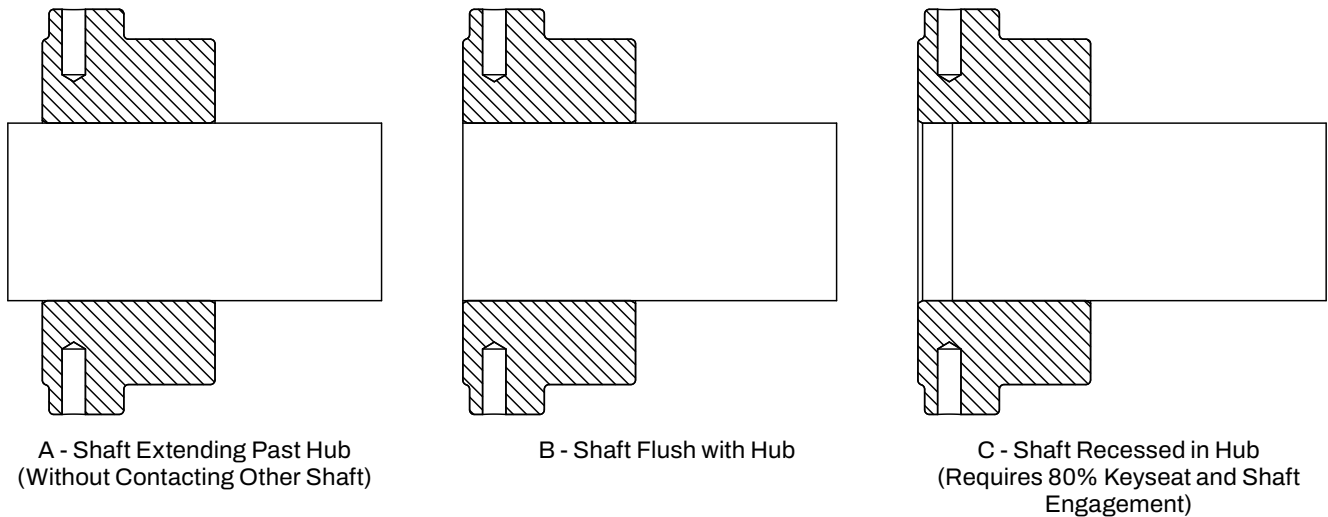

Figure 1 - Hub Mounting Options
2. If needed, hubs can be mounted with the shaft extending past the hub, flush, or recessed within the hub as seen in Figure 1.
2. Hubs must be mounted with 100% keyseat and shaft engagement, as seen in A or B of Figure 1.